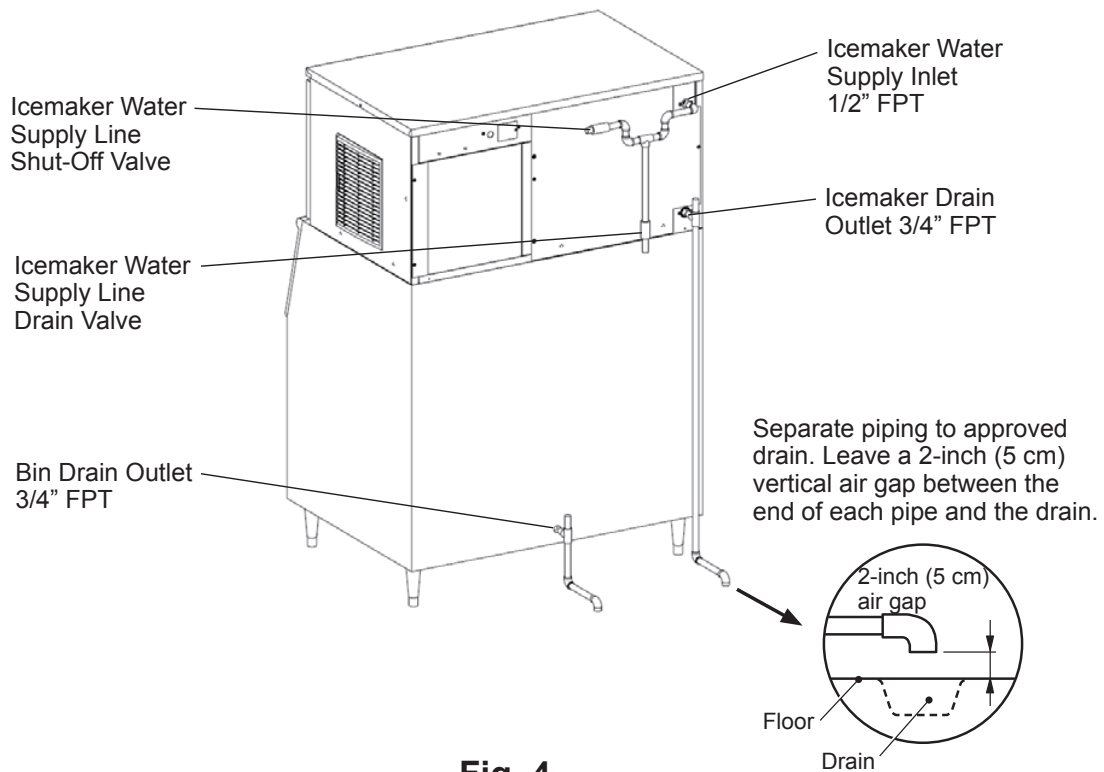

Fig. 4
F. Water Supply and Drain Connections - See Fig. 4
- 7) Close the icemaker water supply line shut-off valve. See Fig. 4.
- 16) Open the icemaker water supply line shut-off valve. See Fig. 4.
- 2) Close the icemaker water supply line shut-off valve. See Fig. 4.
- 11) Open the icemaker water supply line shut-off valve. See Fig. 4.